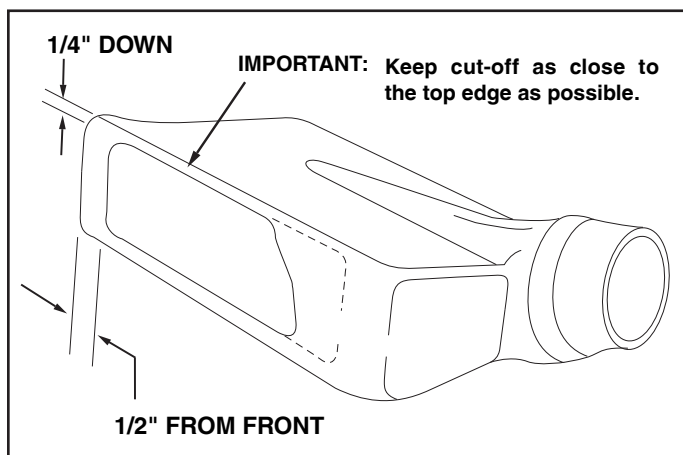

FIGURE 23
- Tape the template to the face of the adapter, about 1/2" from front and 1/4" down from top for deeper decks. For shallow decks, position template low enough that adapter will not extend below bottom of deck. Mark outline of template on face of adapter using white crayon, nail or scribe. Drill a starting hole inside the outline, then use a saber saw or key hole saw to cut out the opening. See figure 23.